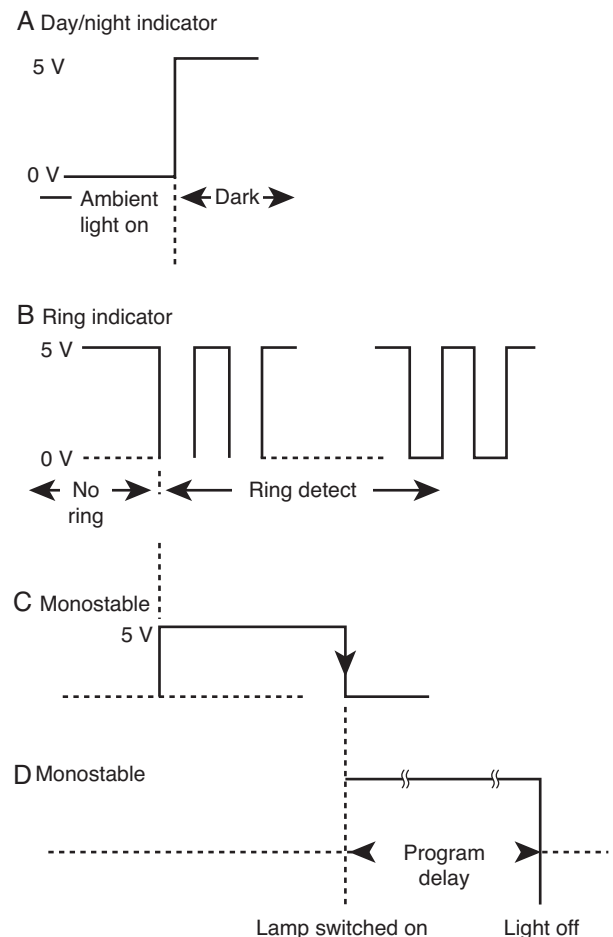

Figure 14-9 Smart phone light waveforms
sensitivity of LDR can be changed by changing resistance R2 connected at collector of the transistor in light monitor circuit. Similarly, switch-on period of the lamp can be controlled by changing capacitor C3’s value in the second 74123(B) monostable circuit. The diagram shown in Figure 14-9 illustrates the timing waveforms during different circuit modes of operation.